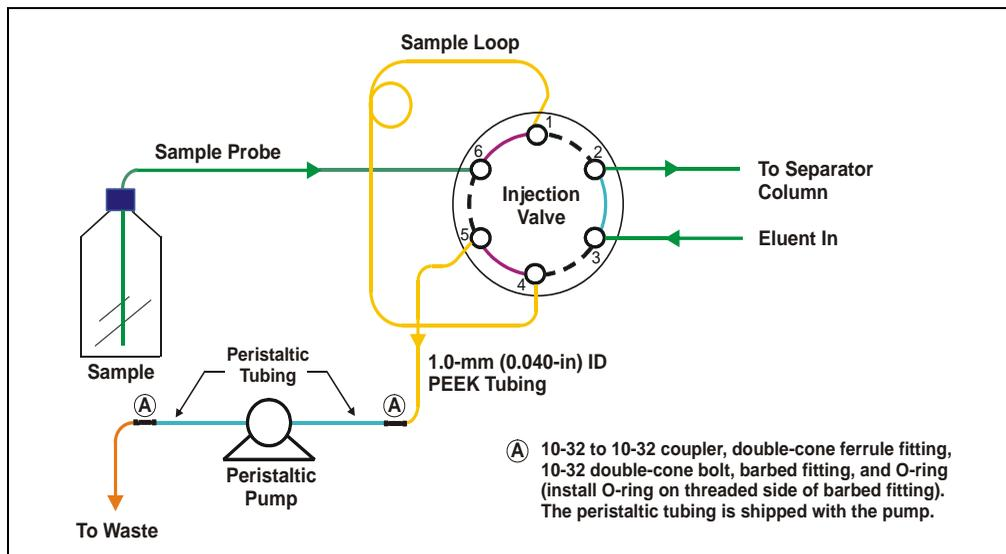
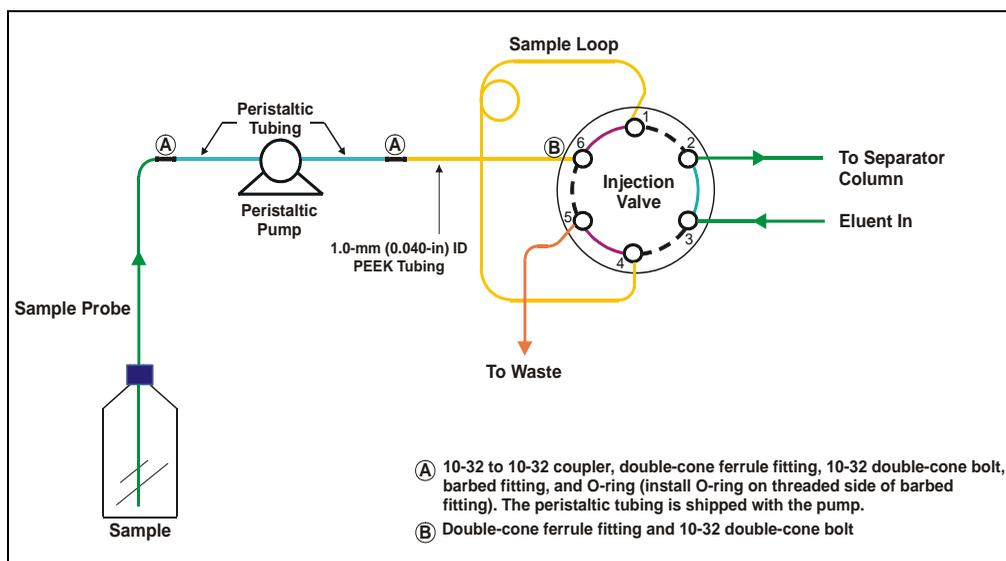

Figure B-13. Peristaltic Pump Flow Schematic: Pull Mode
Figure B-14. Peristaltic Pump Flow Schematic: Push Mode
4. Connect the liquid lines as required for either the push mode (see Figure B-13) or the pull mode (see Figure B-14).
2. Connect the liquid lines to the pump as required for the push mode (see Figure B-13) or the pull mode (see Figure B-14).